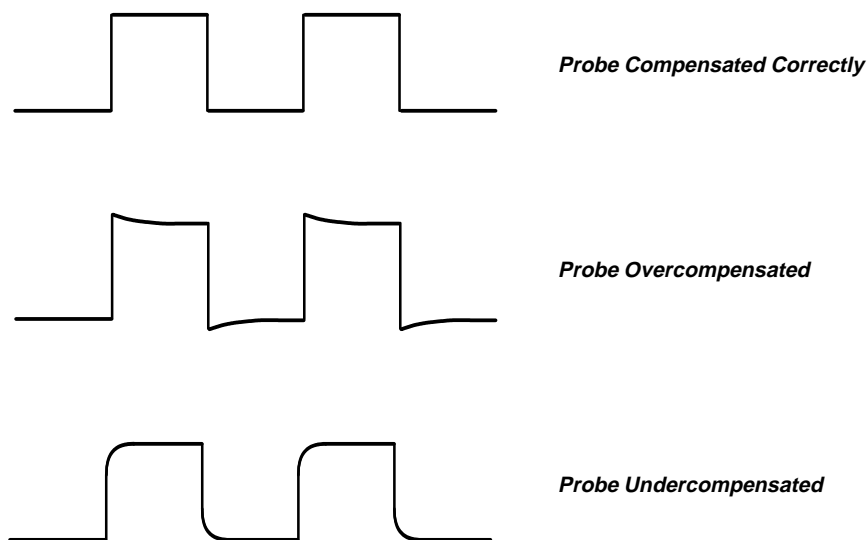
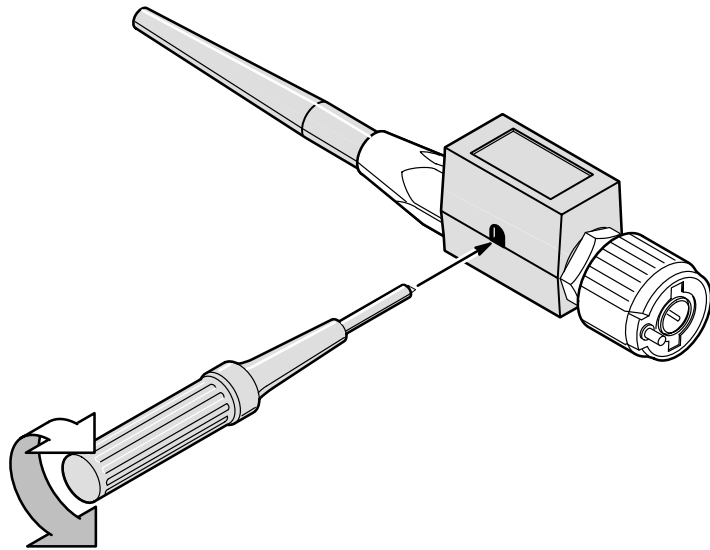

Figure 3-37: How Probe Compensation Affects Signals
Figure 3-38: P6139A Probe Adjustment
Passive probes require compensation to ensure maximum distortion-free input to the oscilloscope and to avoid high frequency amplitude errors (see Figure 3-37).
- Adjust the probe until you see a perfectly flat top square wave (see Figure 3-37) on the display. Figure 3-38 shows where the adjustment is located.